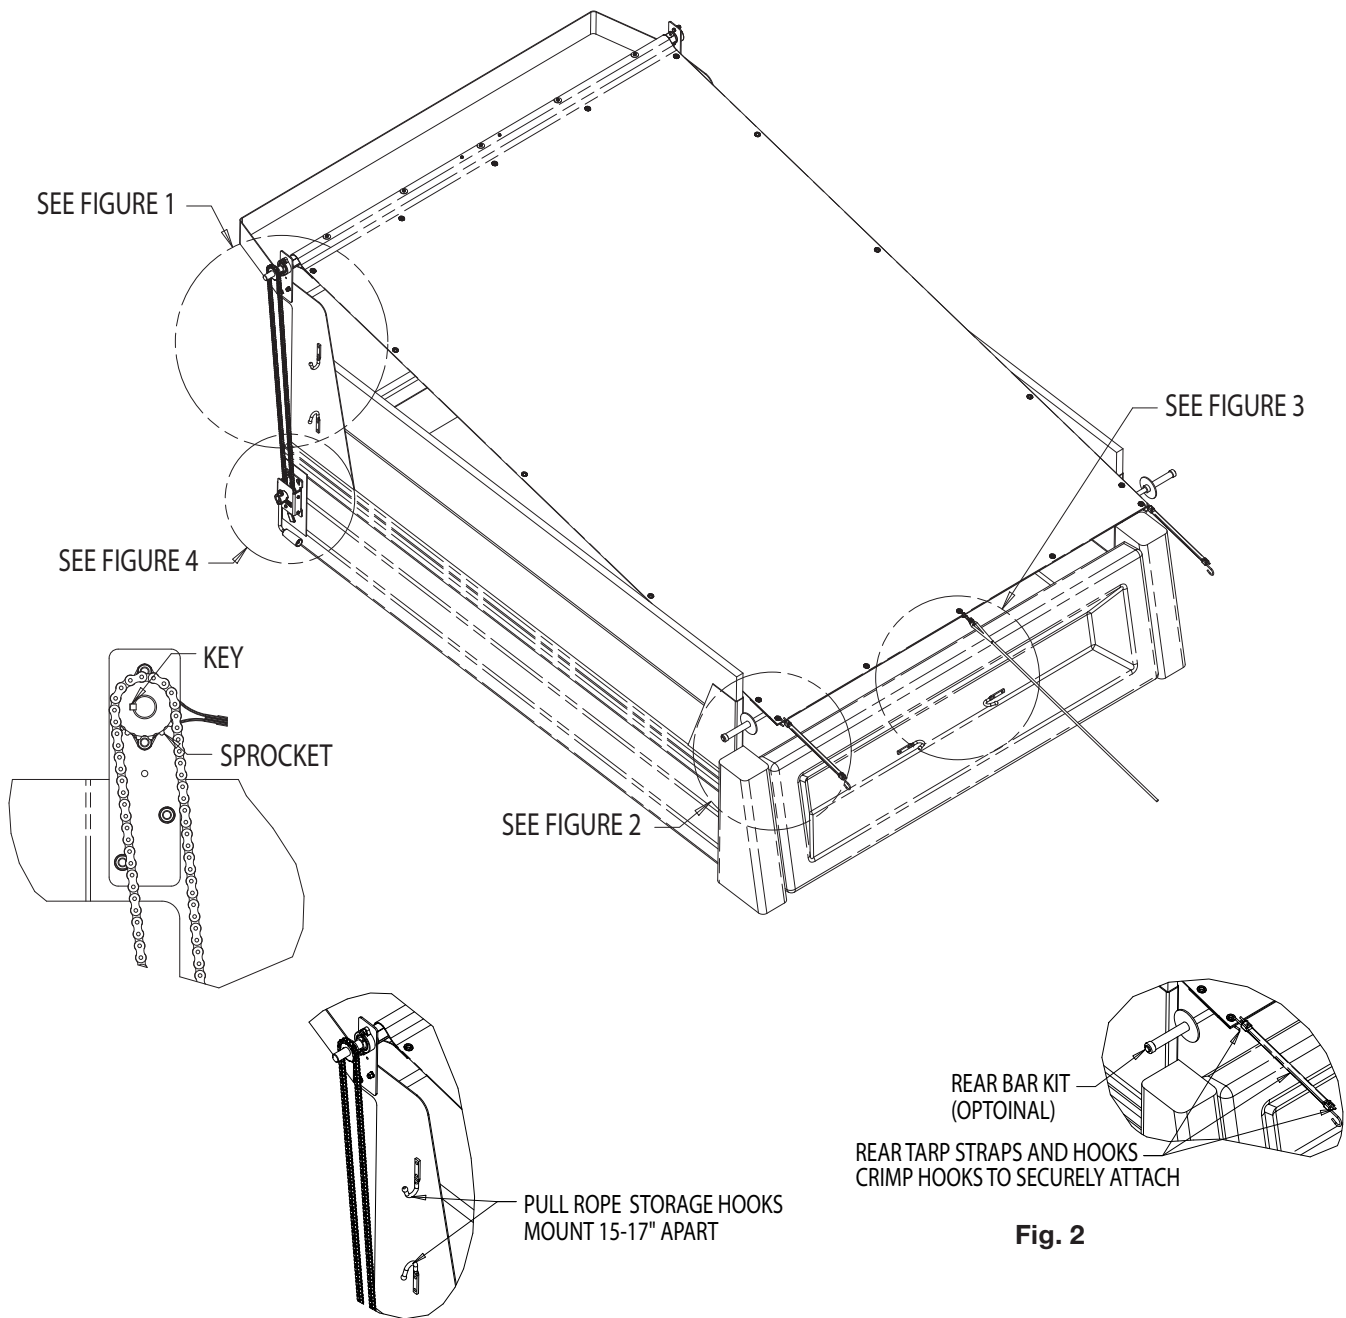

Fig. 1
12. Clamp the Ground Control Assembly to the mounting plate (from step 11) in the approximate final operating location and determine the length of the roller chain (item 6). The roller chain can be shortened by either, grinding and punching the ends of the pins, or by using a chain breaker.
13. Assemble the roller chain with master link from the sprocket on the roll tube assembly (item 7) and to the sprocket in the ground control assembly (item 5) and clamp the Ground Control Assembly to the mounting plate on the side of the body. Adjust the position of the sprocket (item 7) on the roll tube assembly until the chain is parallel to the side of the dump body and tighten the set screws.
16. Replace the cup point set screws in the crank handle assembly (item 8) with the dog point set screws supplied (item 10F). Assemble crank handle assembly onto the ground control assembly. Align the set screws with the hole in the ground control shaft (item 5C) and tighten set screws. Removable Loc-tite may be used to prevent the set screws from loosening.
17. Assemble the four S-hooks (item 13) to the two tarp straps (item 12). The small end of the s-hook is assembled into the hole in the strap and should be bent around the strap to permanently attach the hook to the strap. The two strap assemblies should be attached to the rear corner holes in the tarp. The large hooks should be bent around the tarp grommets to permanently attach straps to tarp. (See figure 1.)